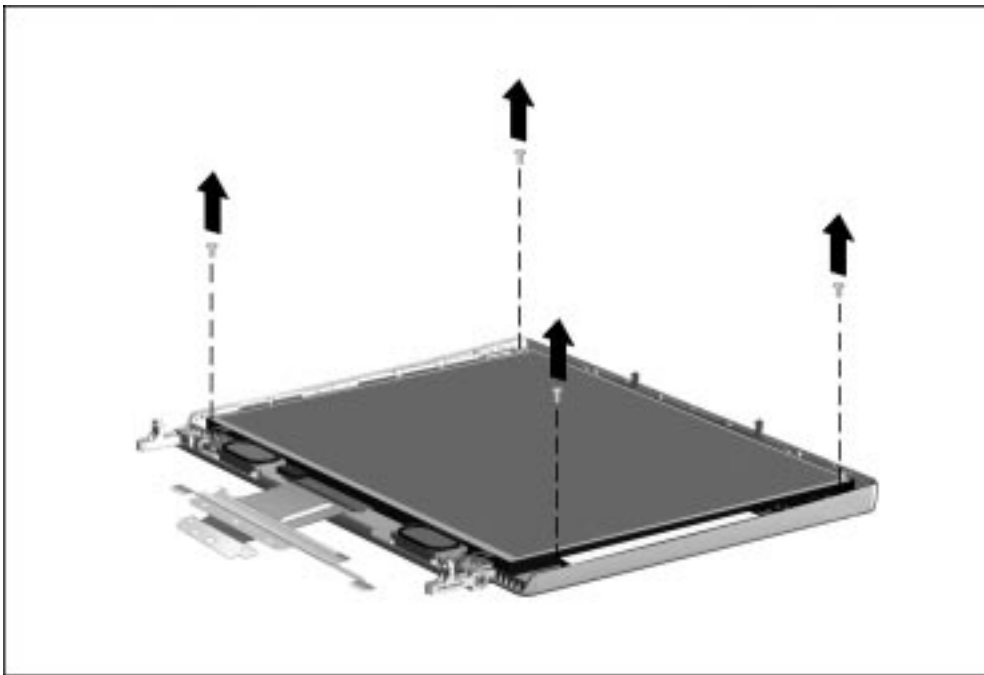

Figure 5-61. Removing the Display Panel Screws on the 13.3-inch Display
8. Remove the four screws that secure the display panel to the display enclosure (13.3-inch display only, Figure 5-61).